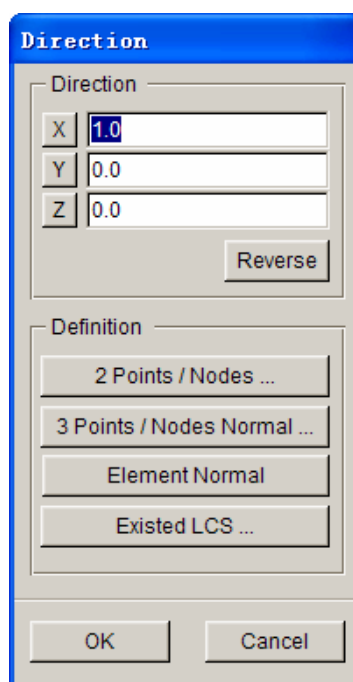

Figure 8.2.15 Direction dialog box
**U Axis...:** This function allows the user to define local U direction. After clicking the button, the DEFINE DIRECTION dialog box as shown in Figure 8.2.15 is displayed.